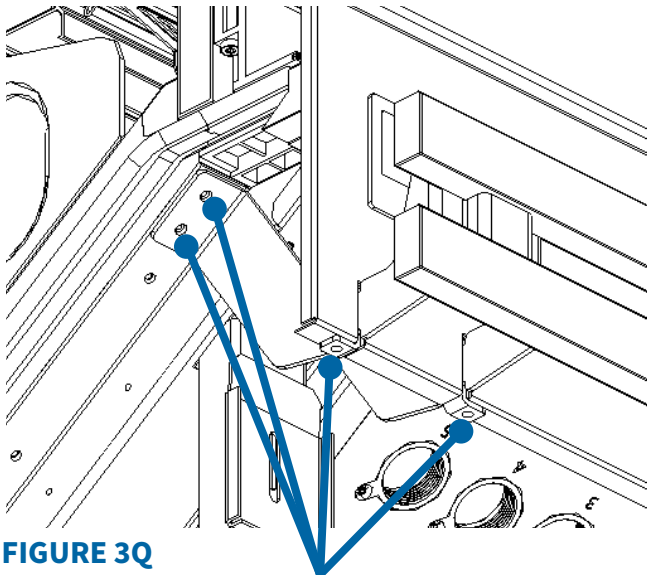

FIGURE 3Q
2. Unscrew and remove the screws holding the front bumper in place, as per Figure 3Q. Screws will be on both sides of the bumper and the centre. Slide bumper down and place in a safe place away from the workspace.